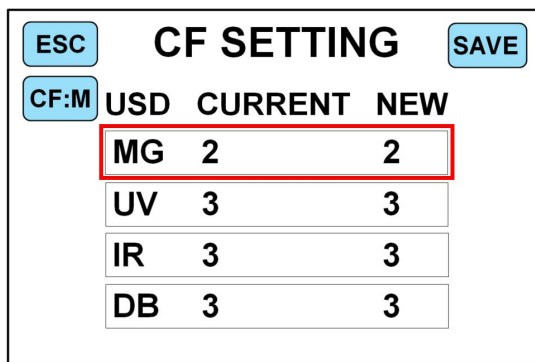

Figure 44
e) Then touch the “**1.Counterfeit level**” key to enter the counterfeit interface, and it can be seen that the value of the counterfeit gear of MG becomes 2, as shown in Figure 44 below: